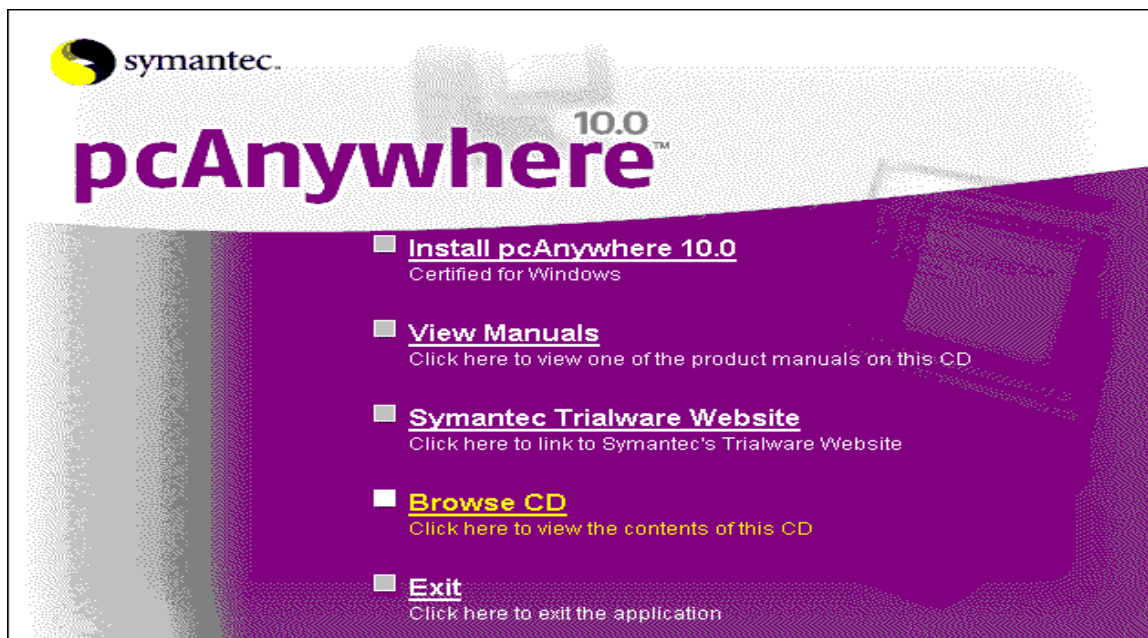

Fig. 11
- Insert the CD-ROM (included in scope of delivery of the DICOM Bridge) in the drive of the service PC. In case of autostart drives, the installation program is started automatically. The installation menu appears (Fig. 11).